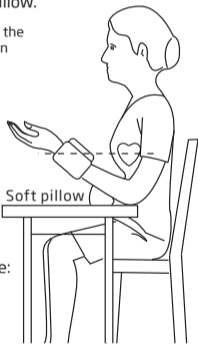

Figure 1
1. Sit straightly and keep relax. (as Figure 1)